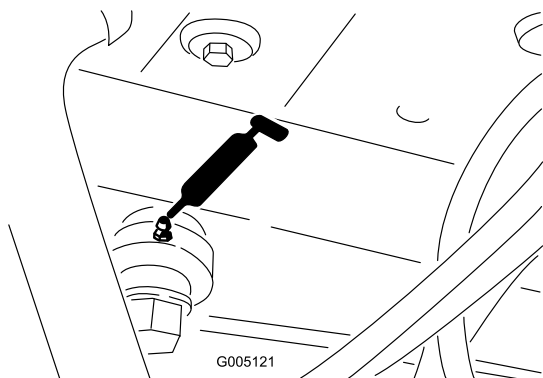

Figure 32
- Steering-cylinder end (Figure 32)